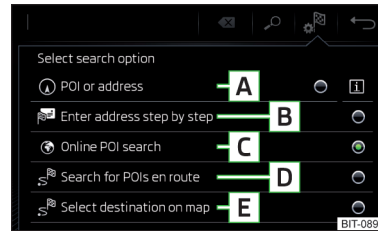

Fig. 226
Function surfaces » Fig. 226
- › Then tap the function surface of one of the menu items for the destination search **A**, **C** or **D** » Fig. 226 on page 183.
- › Then tap the function surface  →  » Fig. 226 on page 183.